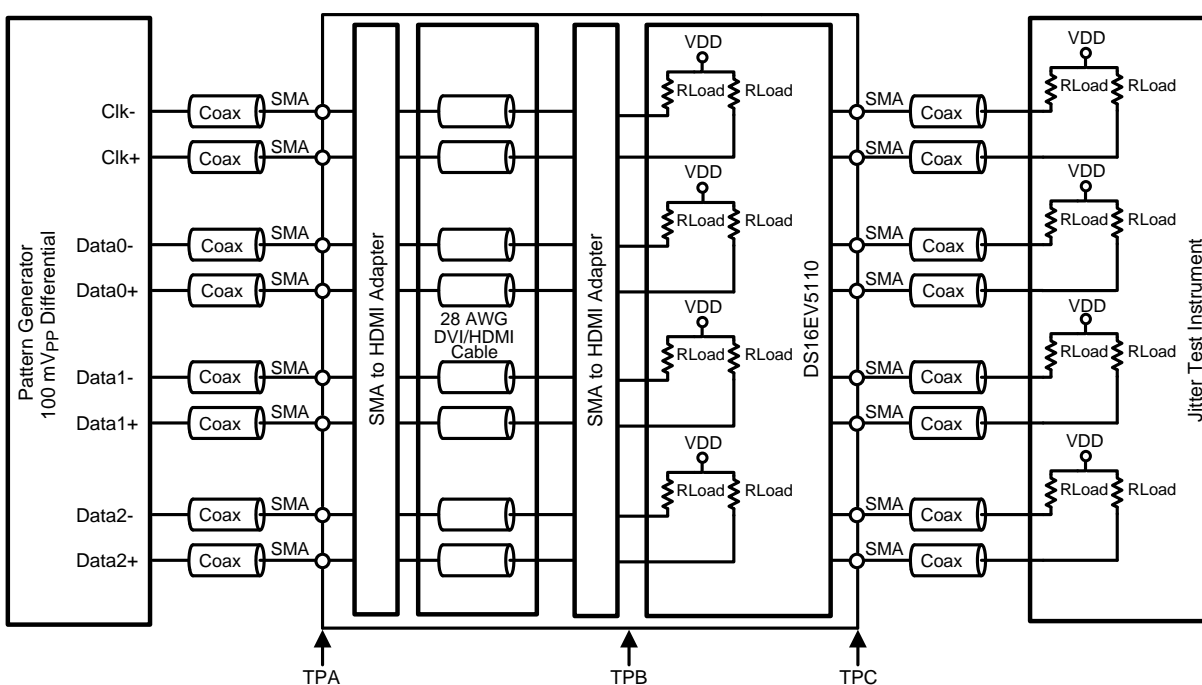

Figure 2. Test Setup Diagram for Jitter Measurement
(3) Allowed supply noise (mVP-P sine wave) under typical conditions.
(4) Specification is guaranteed by characterization and is not tested in production.
(5) Deterministic jitter is measured at the differential outputs (TPC of Figure 2), minus the deterministic jitter before the test channel (TPA of Figure 2). Random jitter is removed through the use of averaging or similar means.
(6) Total Jitter is defined as peak-to-peak deterministic jitter from (5) + 14.2 times random jitter in psrms.
(7) Random jitter contributed by the equalizer is defined as  $\sqrt{J_{OUT}^2 - J_{IN}^2}$ . JOUT is the random jitter at equalizer outputs in psrms, see TPC of Figure 2; JIN is the random jitter at the input of the equalizer in psrms, see TPA of Figure 2.